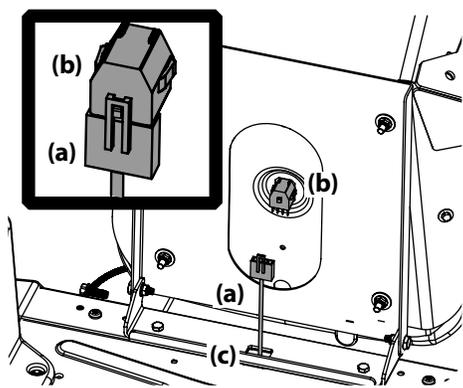

Figure 2-12
- If necessary, securely connect the seat switch wiring harness (a) to the seat switch (b) as shown in Figure 2-12. Be sure to push the excess wire from the wire harness into the seat box hole (c) before continuing.